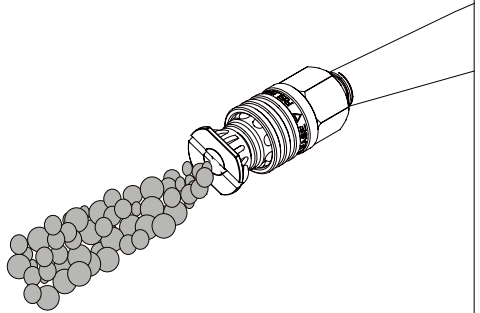

Fig. 8-2
- Connect low pressure black soap spray tip to the wand connector. (See Figure 8-2.)